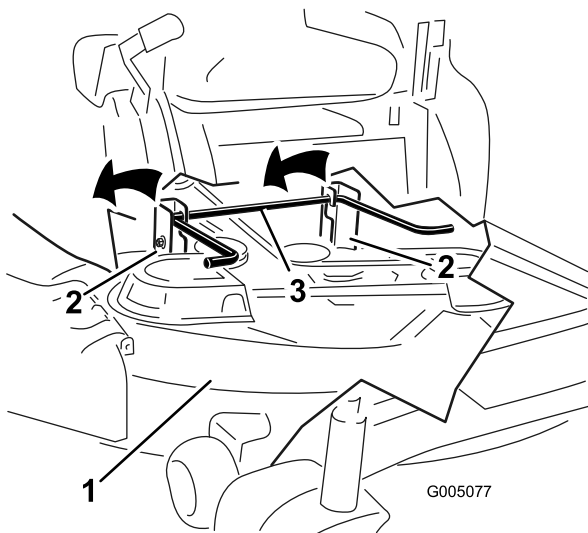

Figure 46
- Lift the mower and hanger brackets clear of the rear lift rod and lower the mower carefully to the ground (Figure 46).
5. Lift the rear of the mower deck and guide the hanger brackets over the rear lift rod (Figure 46).